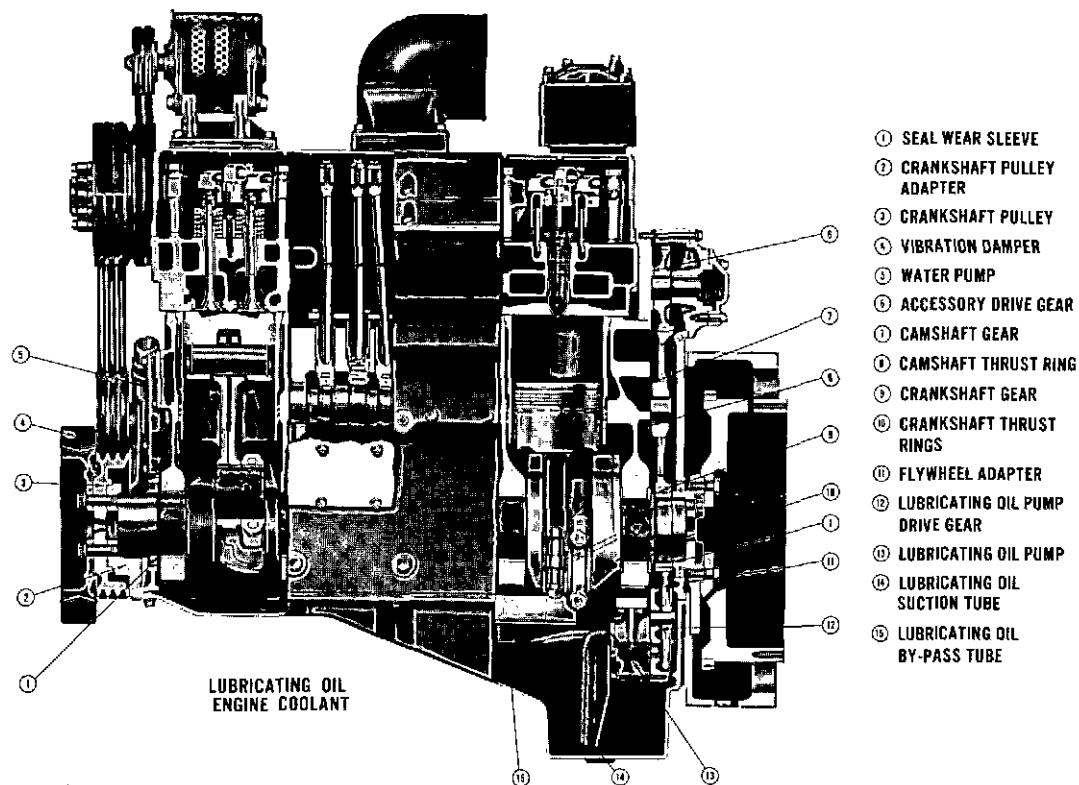

Fig. 5-18, (LWC-16). Lubricating oil and coolant flow — V-903
block, cylinder head, crankshaft and rocker lever shafts complete oil circulation passages. Fig. 5-18 and 5-19.
1. Oil flows from cooler and filter to right bank of oil drilling at front of engine to front center of block. Oil flows through crossover at front of block to left bank and right bank main oil drillings (drilled length of block). Fig. 5-18.